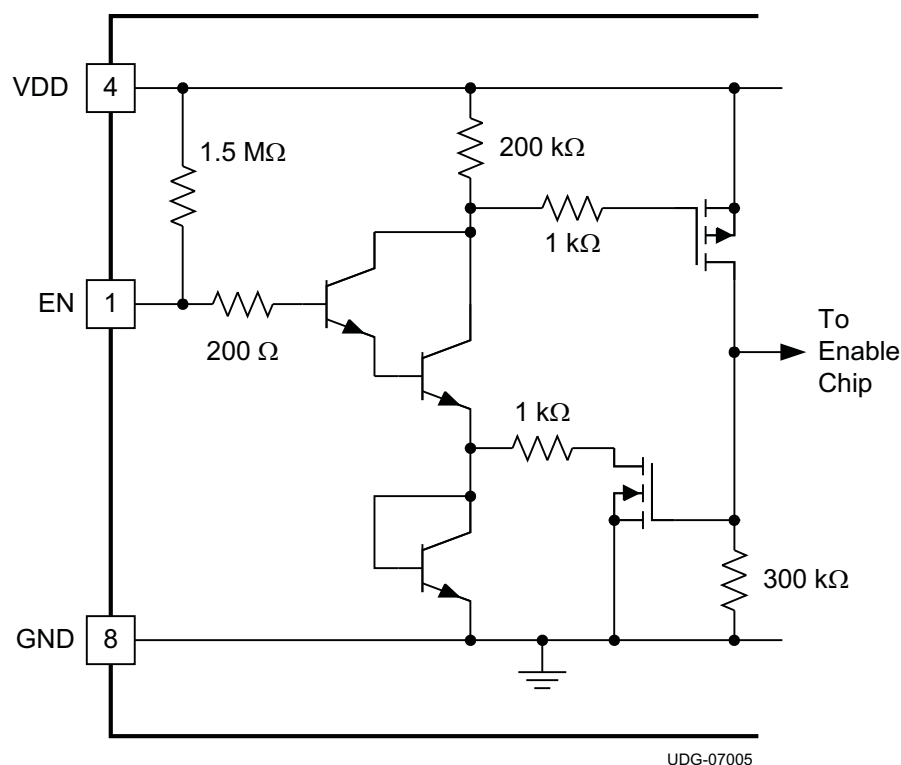

Figure 16. TPS40195 EN Pin Internal Circuitry
The TPS40195 has a dedicated device enable (EN) pin. This simplifies user level interface design since no multiplexed functions exist. Another benefit is a true low power shutdown mode of operation. When the EN pin is pulled to GND, all unnecessary functions inside the IC, including the BP regulator, are turned off and the TPS40195 consumes a typical 165- μ A of current. A functionally equivalent circuit to the enable circuitry on the TPS40195 is shown in Figure 16.